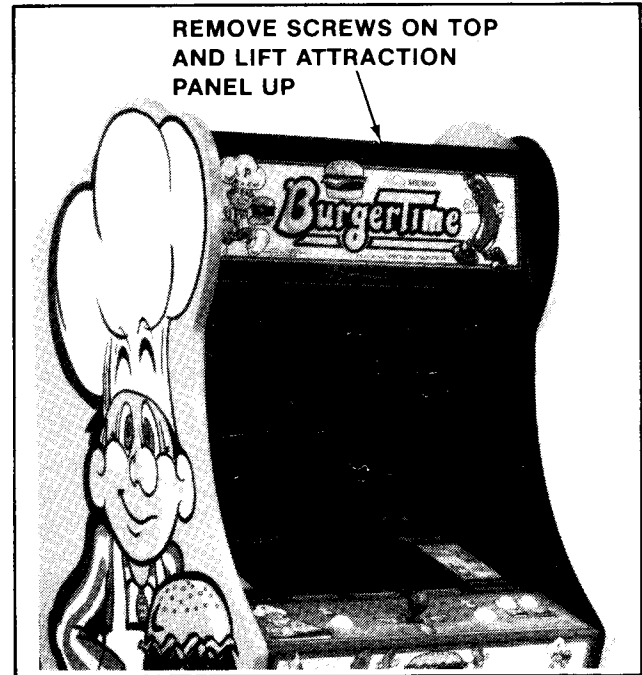

Figure 4-11 Opening the Attraction Panel — Upright
1. **UPRIGHT MODEL:** See Figure 4-11.
**WARNING: If you drop a fluorescent tube and it breaks, IT WILL IMplode! Shattered glass can fly six (6) feet or more from the implosion. Use care when replacing any fluorescent tube.**